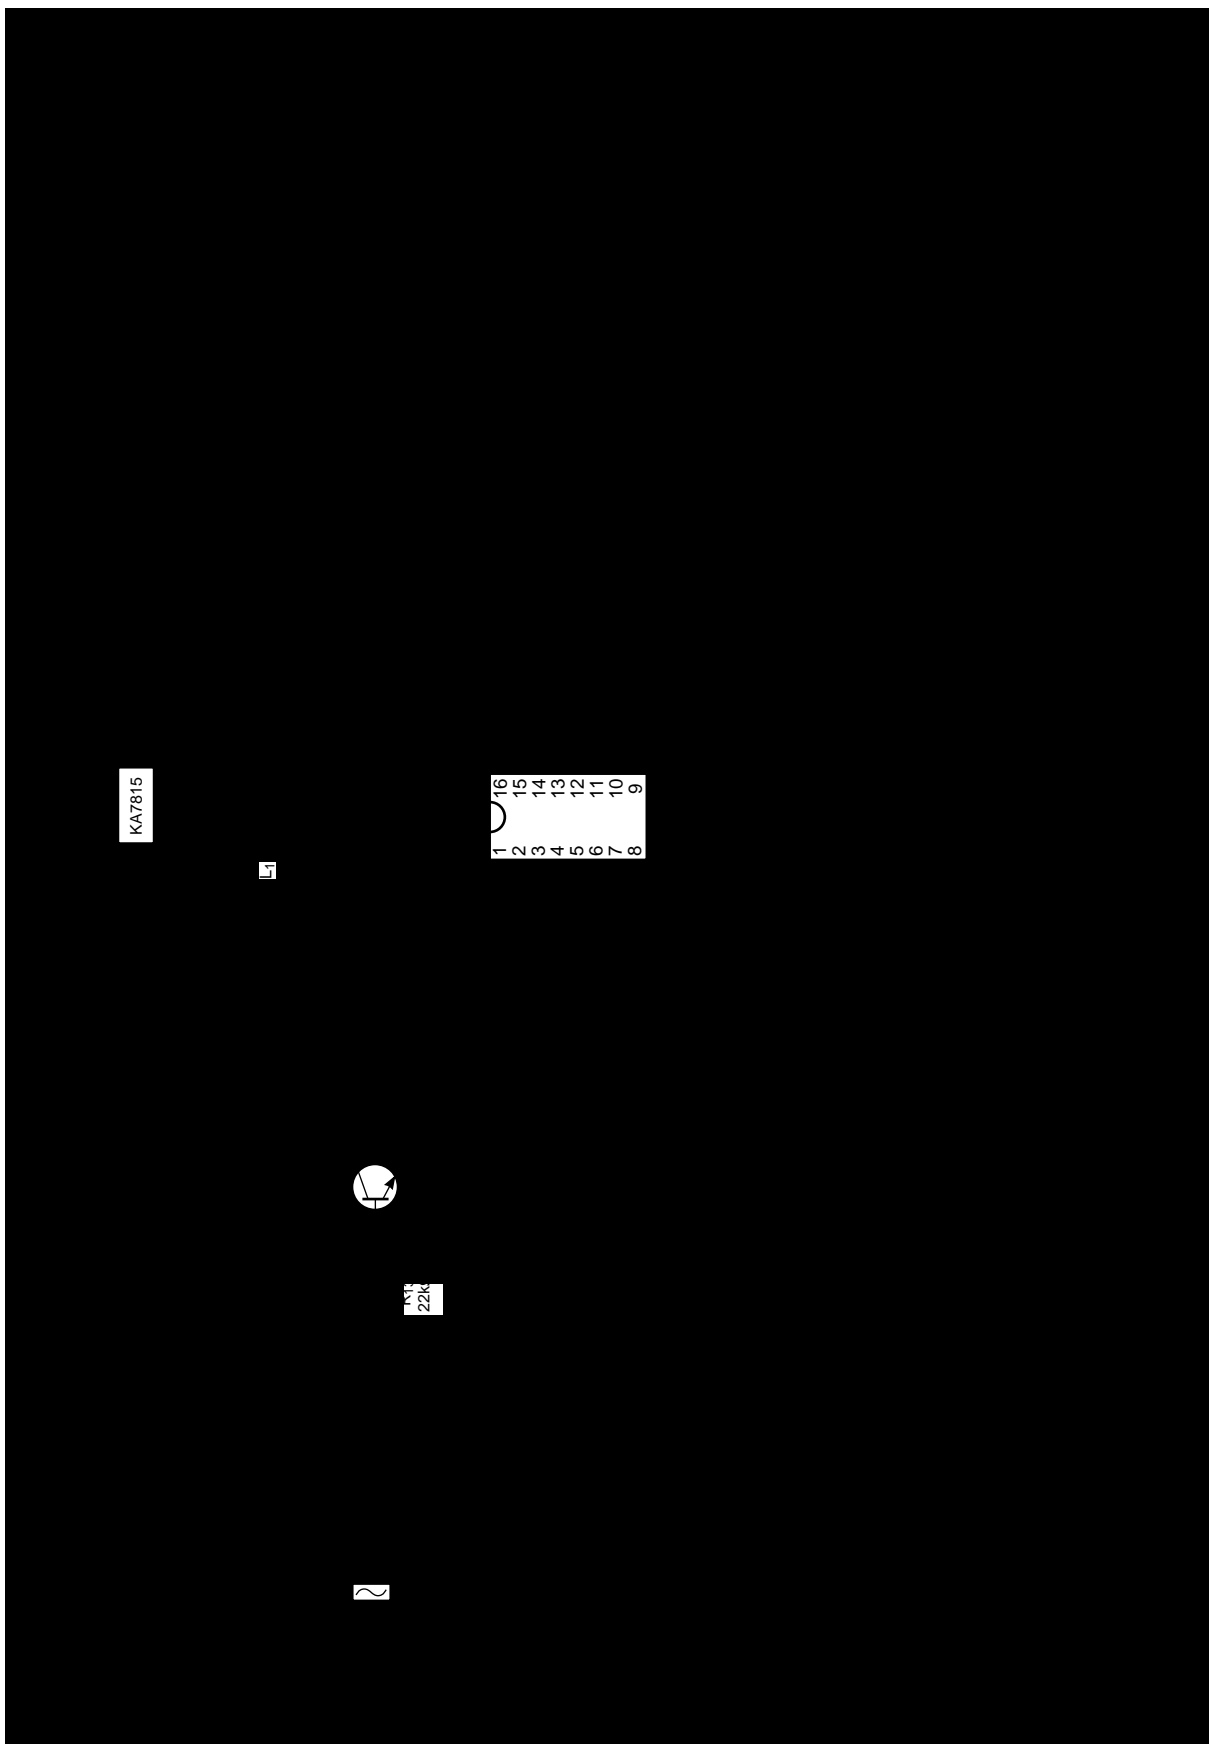

Figure 12. Typical Application 200W Power Factor Correction Circuit
The power factor enhancement circuit shown in Figure 12 is described in detail in Application Note 11. It improves the power factor and lowers the input current harmonics. Note that the circuit meets IEC 1000-3-2 specifications (with the enhancement) on the harmonics by a large margin while correcting the input power factor to better than 0.99 under most steady state operating conditions.
The second form of noise coupling is due to fast changing voltages (high dv/dt). The main source in this case is the drain of the power FET. The radiated noise in this case can be minimized by insulating the drain of the FET from the heatsink and then tying the heatsink to the source of the FET with a high frequency capacitor ( $C_H$  in Figure 12).
**Table 2. Component Values/Bill of Materials for Figure 12**